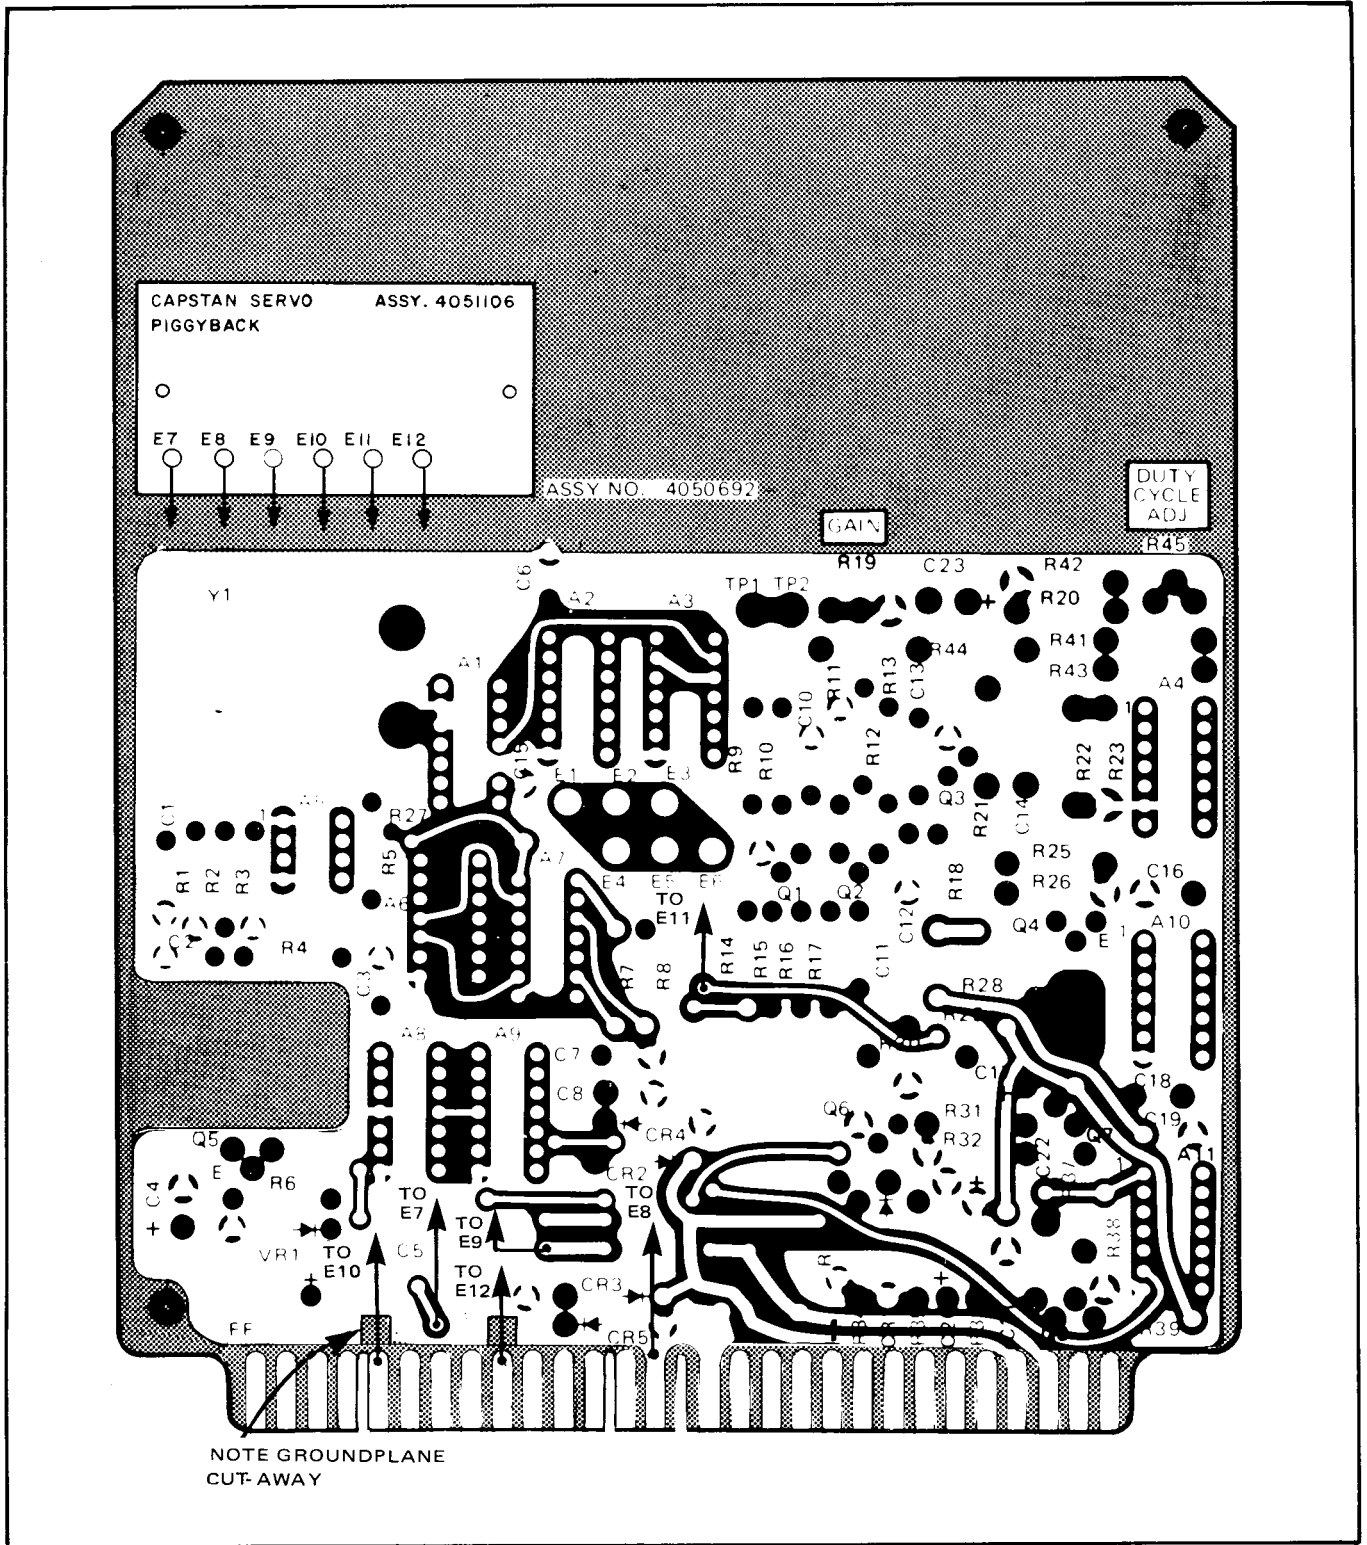

Figure 2-3. Capstan Servo Piggyback Soldering Guide
Before soldering wires to Capstan Servo PWA, cut ground plane away from edge fingers BB and X as shown in Figure 2-3, to preclude accidental short circuits. To remove circuit path place tip of hot soldering iron in the middle of cut section while removing.
8. Trim wires to appropriate lengths, strip insulation from ends and solder onto locations designated in Figure 2-3. DO NOT REINSTALL MODIFIED PWA AT THIS TIME.